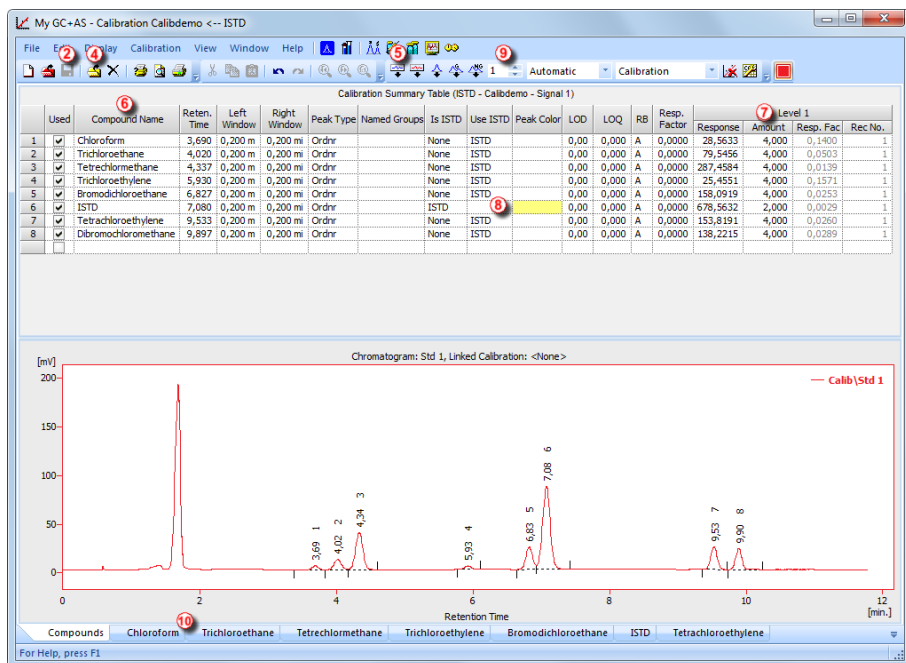

Fig 8: Calibration window - loaded standard
- Only one signal of the chromatogram can be active at a time. The active signal can be recognized from the legend section ① in the upper right corner of the graph (active signal is set in bold), from the icons in the **Overlay** toolbar ② (the active signal has the highlighted icon) or from the graph outline color and table headers color. Values inside the tables change by changing the active signal.
- Change the active signal by double clicking on its name in the legend section ①. Change the color of the currently active signal to another one by clicking on the **Not used color** icon in the **Overlay** toolbar. All parts of
- the **Chromatogram** window mentioned in the previous step will change color. Return to the former active signal by clicking on its (now raised ) icon in the *Overlay* toolbar ②.
- Click on any row in the *Result table* ③. The peak (or peaks) corresponding to the row you just clicked onto will change color according to the color of the signal. This change will last until the focus in the *Result table* is canceled.
- To add permanent color to the peak, click the *View* button ④ in the right side of the **Results** tab. This will get you to the linked calibration file. There, in the *Calibration Summary Table*, find the *Peak Color* column (see **Fig 8** on pg 20.). In the row corresponding to the peak to be colored select the appropriate color and click *OK*. Return to the **Chromatogram** window by using the  icon in the menu. The selected peak is now colored according to the color selected in the **Calibration** window.
- You can change the integration of peaks by using the interactive icons on the toolbars on the left side of the **Chromatogram** window ⑤ or directly on the **Integration** tab ⑥. Any changes made either way will change the **Integration table** and can be copied to the template method.
- Check that the *Current Level* field is set to 1 in order to set the calibration level number 1. Use the *Add All* icon (blue) ⑤ to move all identified peaks to the calibration table. The Calibration table appears in the **Calibration** window, ready to be completed as seen on **Fig 8** on pg 20.
- As it can be clearly seen in the calibration, particular peaks are now identified according to their retention times only. Click and edit the fields in the *Compound Name* column ⑥ to those seen on **Fig 8** on pg 20. You may also set the peak color for some peak, for example the ISTD peak, in the *Peak Color* column.
- Fill the *Amount* column ⑦ with the concentration of the particular compounds. In this standard mixture, all compounds except for the peak number 6 have concentration of 0.4.
- Peak number 6 is marked as an ISTD peak. In the *Is ISTD* column, change its type to ISTD1 ⑧ and then set its amount in the *Amount* column to 2.
- The first calibration level is now set. On the tabs of the individual compounds ⑩ (named according to the *Compound Name* field) the graph with single-point linear calibration can be seen.
- Proceed to setting the other calibration levels. The operation is quite simple and straightforward - use the *Open Standard* icon (yellow) ④
- again to open another calibration standard named STD 2.PRM. Set the calibration level in the *Current Level* field ⑨ to 2 and use the *Add All*  icon (blue) ⑤. Fill in the *Amount* column with 1.0 values (except for the ISTD peak, in which the 2 value should be used again).
- Set the third calibration level accordingly using the STD 3.PRM file and *Amount* of 3.0 and the fourth level (file STD 4.PRM, *Amount* 5.0) except for the ISTD peak (*Amount* 2 every time). On the tabs of the individual compounds ⑩, the linear four-point calibration can be seen. Save the calibration file now using the *Save Calibration*  icon ② under the name CALIBDEMO.CAL into the default directory.